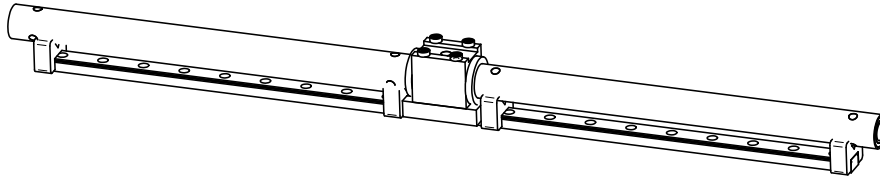
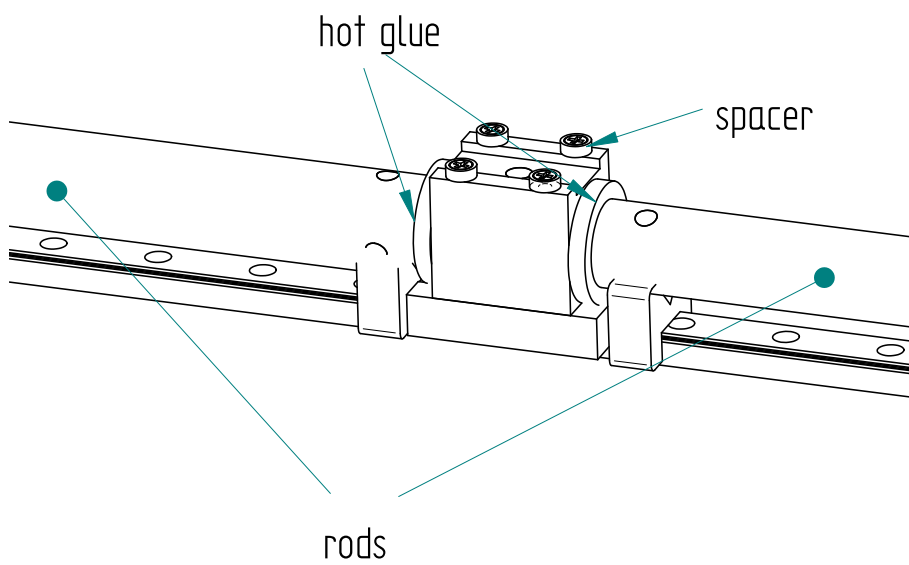

Figure 1.14: male junction aligning
Figure 1.15: male junction aligning zoomed
8. Fix them in place with **hot glue**. See Figure 1.14, page 32 and Figure 1.15, page 32.